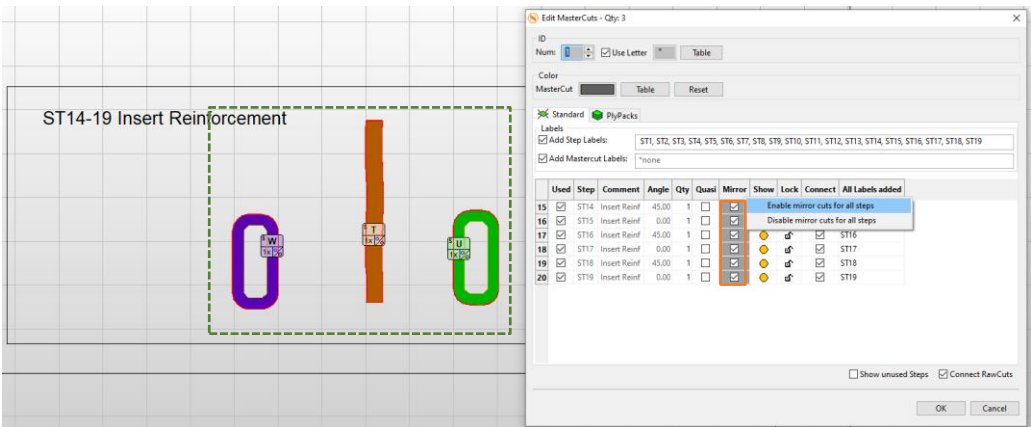

Figure 284
- MasterCuts with IDs T, U and W (Figure 284).